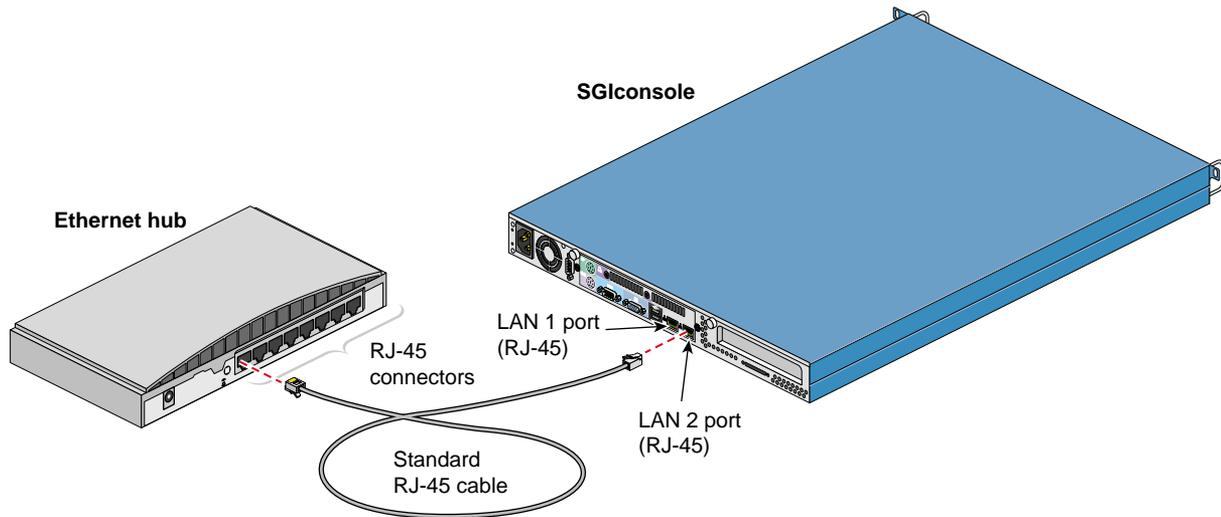

Figure 2-34 Connecting SGIconsole to the Ethernet Hub
4. Connect one end of one of the RJ-45 to RJ-45 standard Ethernet cables to the **LAN 2** port RJ-45 jack (the rightmost RJ-45 jack) on your SGIconsole. Connect the other end of the RJ-45 cable to an RJ-45 jack on the Ethernet hub. Figure 2-34 shows the SGIconsole connected to the leftmost jack of the Ethernet hub. If you are going to use the leftmost Ethernet hub jack to connect to the SGIconsole, make sure that the Uplink button (next to the leftmost jack) is set to **Normal** (not pushed in).